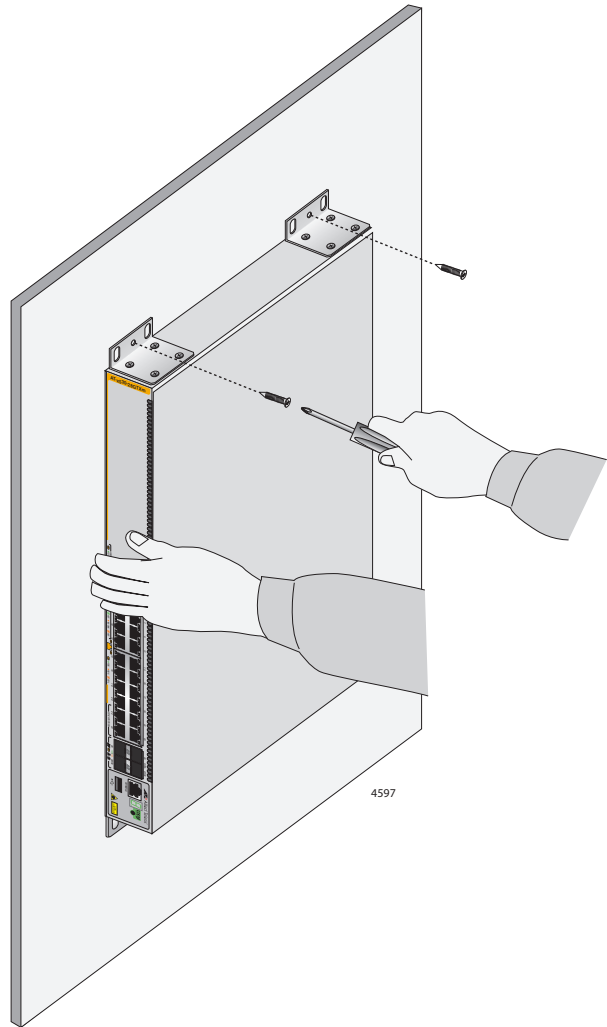

Figure 40. Installing the Switch on a Concrete Wall
7. Have another person hold the switch at the selected wall location while you secure it to the wall with the M4x32mm screws provided. Refer to Figure 40.